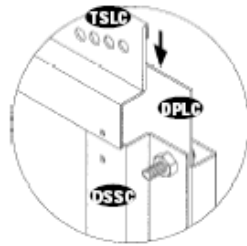
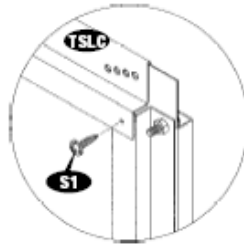

Fig.1
Fig.2
10. Assemble the door panel strip (TSLC) with door pane. Make sure the door panel top edge to be inserted into the (TSLC). See fig.1. Secure the (TSLC) to the (DSCC) with (S1) screws. See fig. 2. Secure the other end through the door panel to the (DSCC) with (S1) screws. See fig. 3.